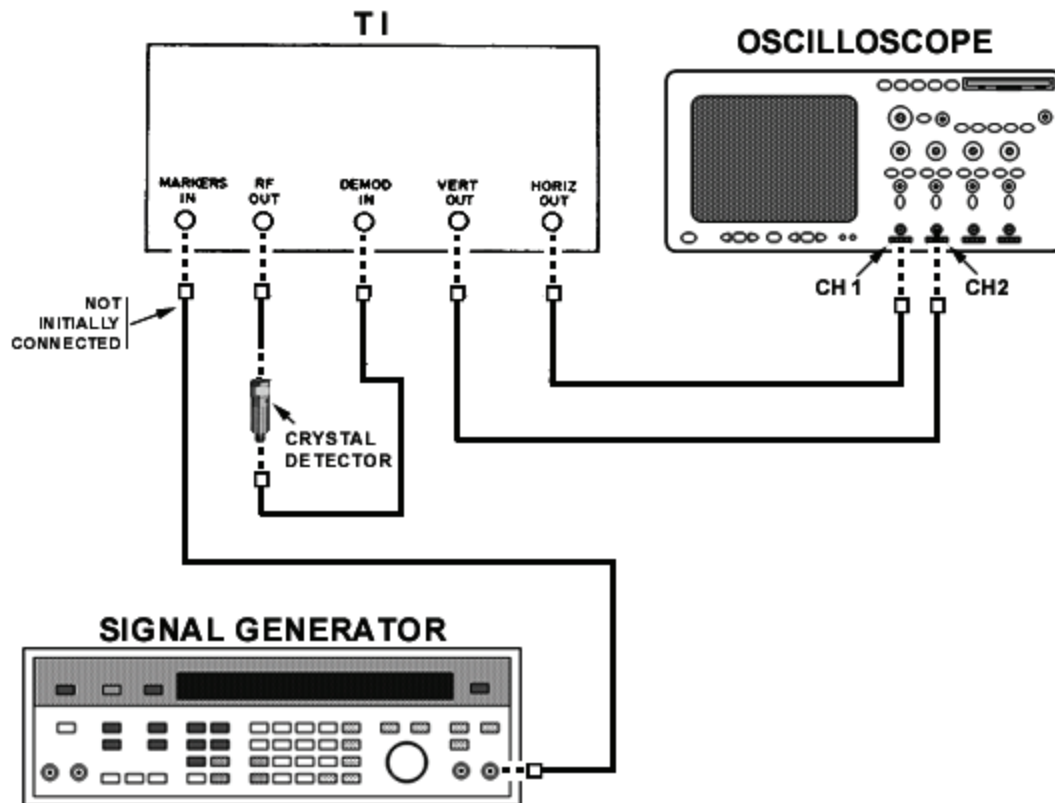
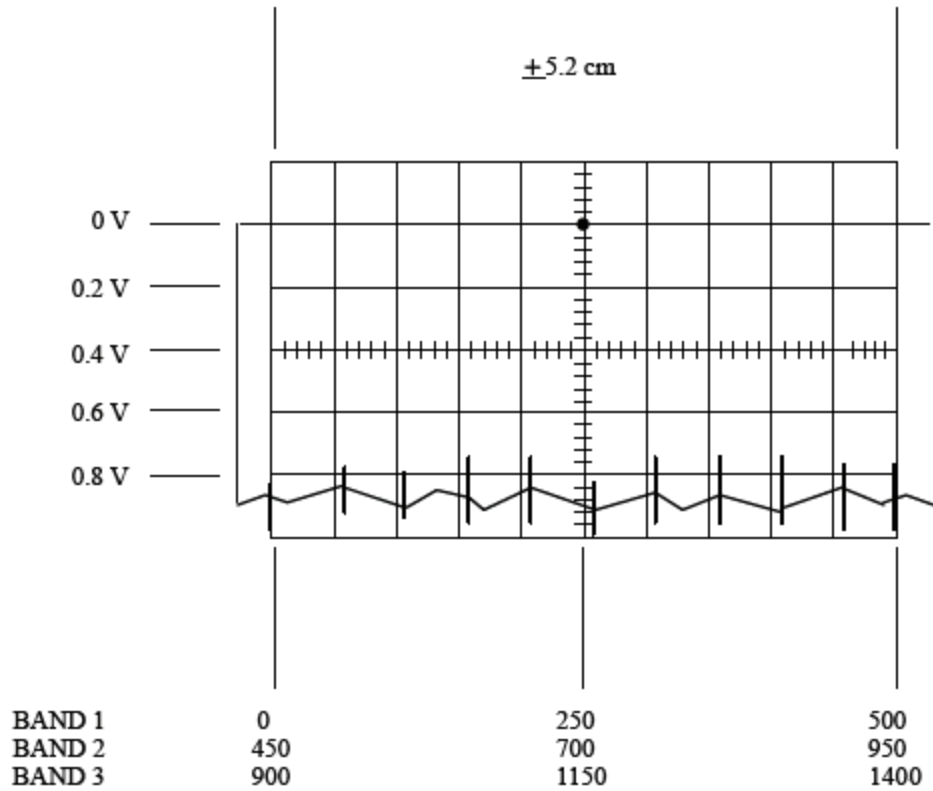
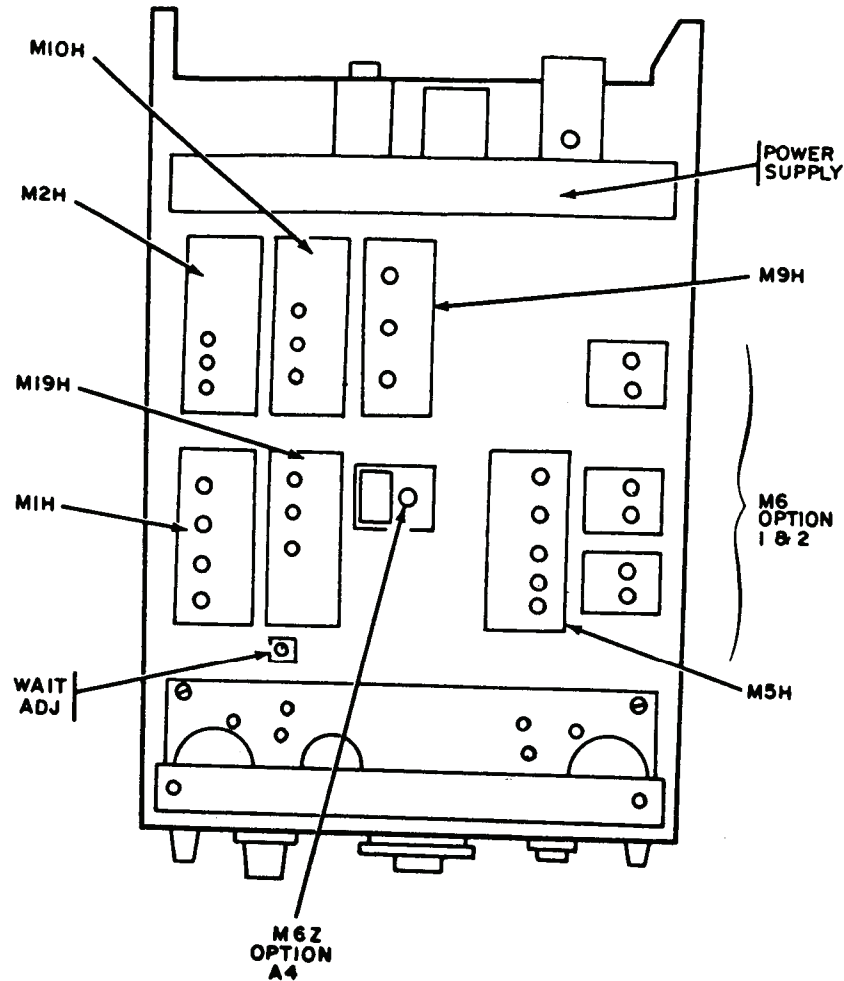

Figure 1. Test equipment – Marker System setup.
Figure 2. RF detector display.
Figure 3. Test instrument - top view.
- (1) Connect equipment as shown in figure 1.
- (2) Set oscilloscope for an X versus Y function operation.
- (3) Adjust TI **MARKER SIZE** and oscilloscope vertical and horizontal controls to obtain a pattern as shown in figure 2.
- (4) Connect signal generator output to **TI MARKER** in.
- (5) Adjust **CENT FREQ** and **SWEEP WIDTH** until second 50 MHz harmonic marker is centered on oscilloscope and marker expanded sufficiently to observe zero beat.
- (6) Adjust signal generator for a 50 MHz zero beat (when signal generator marker is aligned with second 50 MHz marker) with the internally (TI) generated marker on oscilloscope.
- (7) At zero beat, the signal generator display will indicate between 49.9975 and 50.0025 MHz.
- (8) Repeat (5) through (7) above for **1, 5, 10, and 100 MARKERS MHz** settings, decreasing the **SWEEP WIDTH** as required (example: 40-65 MHz) to obtain a zero beat with the **1, 5, and 10 MHz** markers. The allowable error is $\pm 0.005\%$ of the internal marker frequency.
(9) Note that single frequency markers should have no spurious markers throughout the sweep range. Harmonic type markers may have small spurious markers at one-half or one-third the specified marker interval.
(10) Readjust TI and oscilloscope controls to obtain display shown in figure 2.
(11) Set **MARKER SIZE** switch to the down position.
(12) Set **MARKER TILT** switch to the up position.
(13) If markers are not at least 12 V p-p, perform **b** below.
(14) Note that the birdy (notch) marker is adjustable from 12 V p-p vertical marker to a horizontal marker equal to 10 percent of the horizontal deflection.
(1) Readjust TI and oscilloscope controls to obtain display shown in figure 2.
(2) Disconnect **SWEEP SAMPLE OUT** connector from M5H (fig. 3) module and remove input to RF out.
(3) Connect cable assembly to **SWEEP SAMPLE OUT** on M5H.
(4) Adjust **M5H SWEEP SAMPLE ADJ** (fig. 3) for a detected output of 0.035 V (R).
(5) Remove bottom cover.
(6) Locate the size control for each marker module.
(7) Adjust the size control on each marker module until the amplitude of the markers does not increase.
(1) Reconnect equipment as shown in figure 1 with signal generator disconnected.
(2) Reset controls as specified in **7 c** above.
(3) Readjust oscilloscope controls to obtain display shown in figure 2.
TI should be thoroughly stabilized by operating 1 hour before the following adjustments are made. See figure 3 for location of adjustments.
- (1) Adjust M9H **CENT BAND 1** control to position the 250 MHz marker at the exact center of oscilloscope display (fig. 2) (R).
- (2) Adjust M2H **SWEEP WIDTH 1** to position the 0 frequency and the 500 MHz marker as shown in figure 2. Compromise between 0 and 500 if necessary (R).
- (3) Note the extreme left side of the oscilloscope display.
- (4) Set **SWEEP TIME SEC** to **LINE**.
- (5) Adjust **M1H CLAMP** (fig. 3) to extend the sweep 0.2 cm beyond the first graticule line (R).